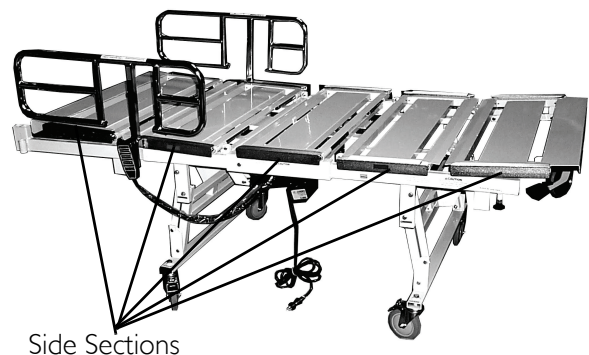

FIGURE 4.3 Adjusting Width
NOTE: For this procedure, refer to FIGURE 4.3.
1. Pull down on the release knob located under the side of the bed. See Detail "A" of FIGURE 4.3.